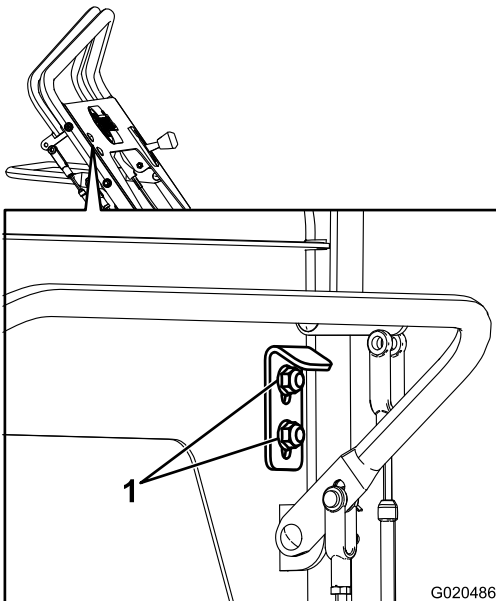

Figure 32
- Loosen the 2 nuts on the reverse speed stop (Figure 32).
- Move the stop down to the midpoint or slightly past it and tighten the 2 nuts (Figure 32).